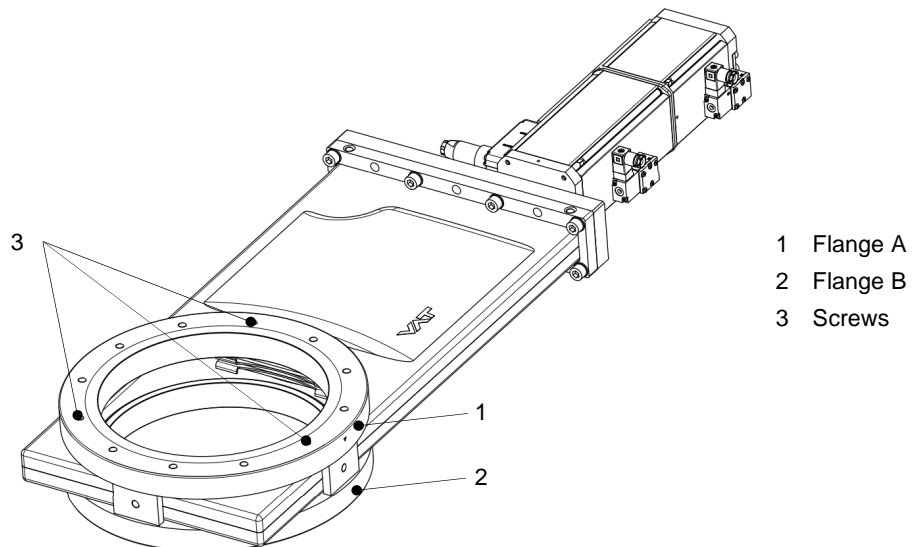

Figure 4-2
7. Clean sealing surfaces and seals of both flanges; see (1) and (2) according to «Figure 4-2» on page 11.
9. Mount the four screws (3) according to «Figure 4-2» on page 11, evenly in crosswise order until the seal touches the sealing surface.